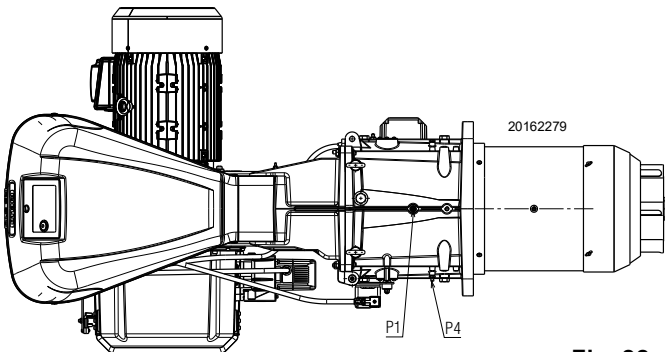

Fig. 22
Gas pressure measured at the test point P1) (Fig. 22), with:
- subtract the combustion chamber pressure from the gas pressure measured at test point P1) (Fig. 22).
$$\begin{aligned} \text{Gas pressure at test point P1) (Fig. 22)} &= 27.6 \text{ mbar} \\ \text{Pressure in combustion chamber} &= 2 \text{ mbar} \\ 27.6 - 2 &= 25.6 \text{ mbar} \end{aligned}$$
To calculate the required gas pressure at test point P1) (Fig. 22), set the MAX output required from the burner operation:
- read, on the right (column 1), the pressure at the test point P1)(Fig. 22).
Pressure required at test point P1) (Fig. 22).